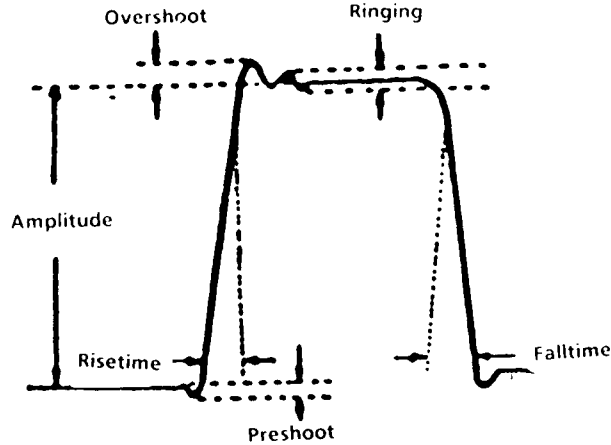

Figure 4. Output pulse characteristics.
- (1) Set pulse width to **SQUARE WAVE**.
- (2) Measure rise and falltime, using standard measurement technique. Rise and falltime, as indicated on oscilloscope, will be less than 3.5 ns.
- (3) Measure preshoot, overshoot, and ringing (fig. 4), using standard measurement technique. If preshoot, overshoot and ringing, are not less than 5 percent of pulse amplitude, perform **b(1)** below.